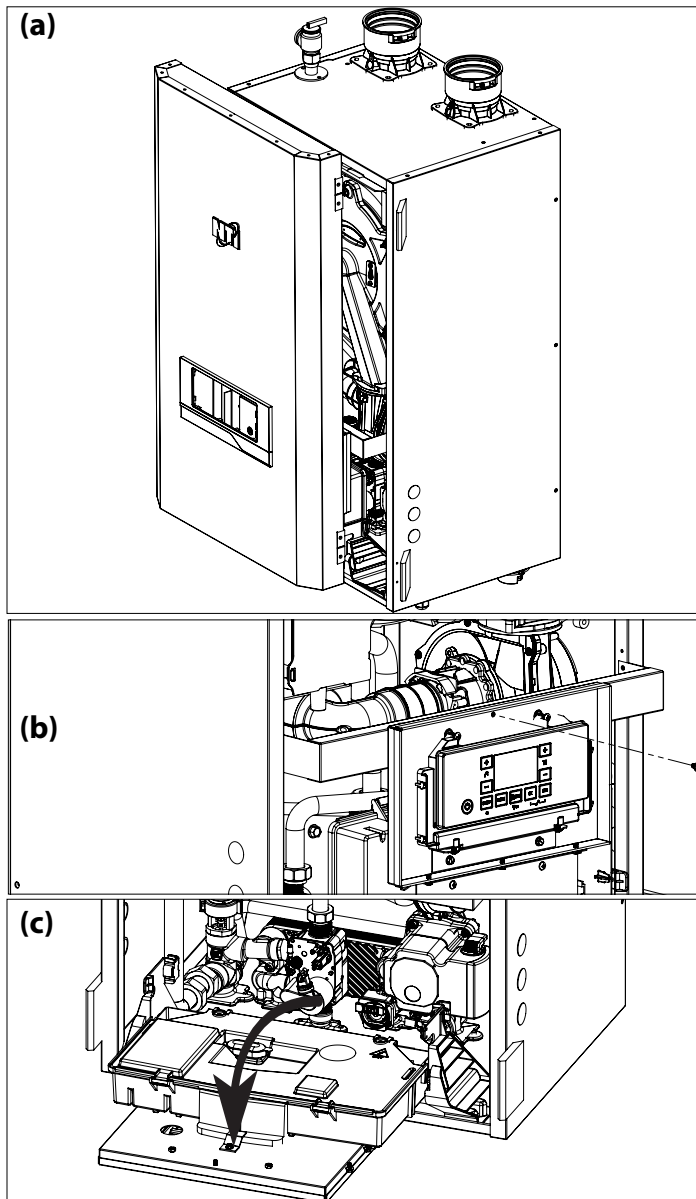

Figure 81 - Removing the Cover and Control Panel Housing
See Figure 81 to access the interior of the boiler:
- Remove the front panel as shown in Figure 81.